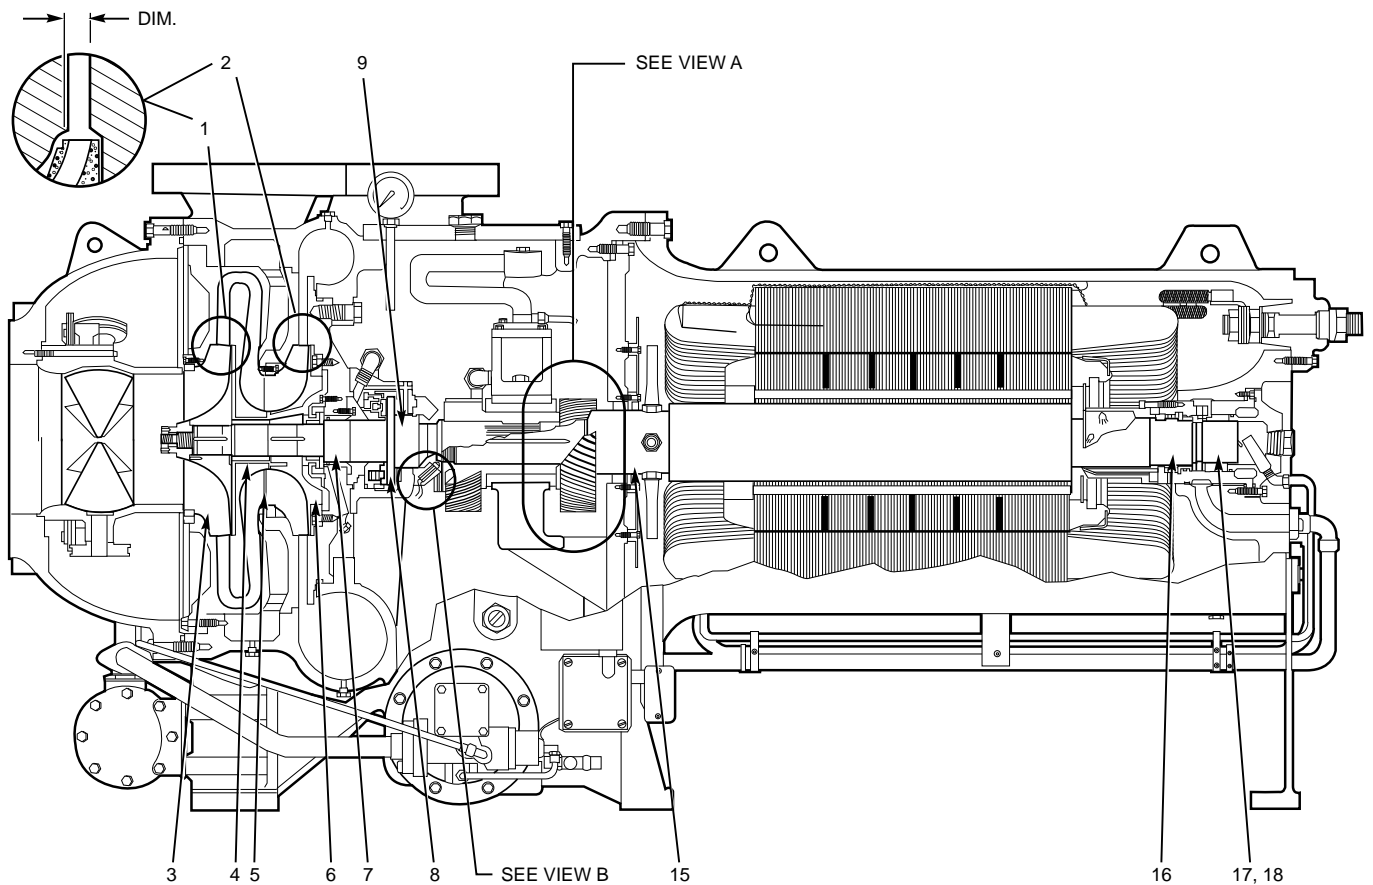

Fig. 35 — Compressor Fits and Clearances
*See Fig. 35 for item. callouts.